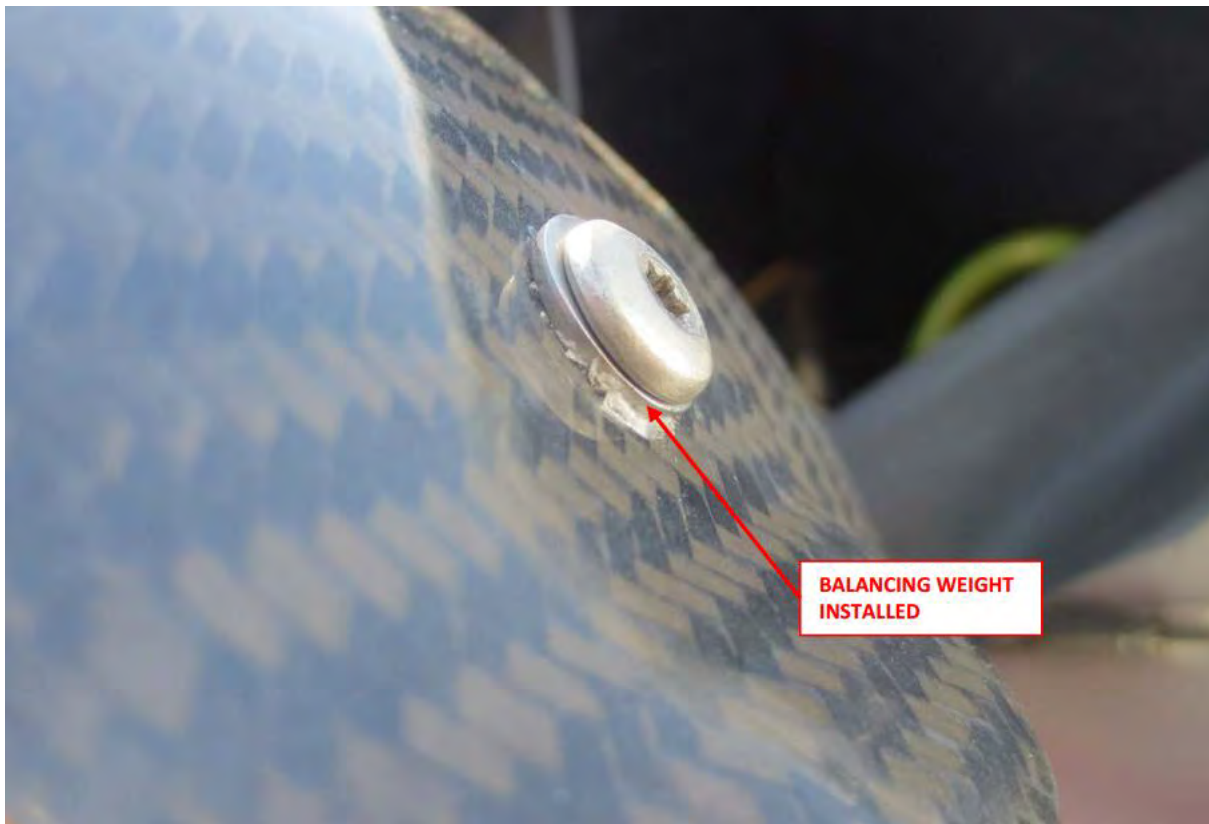

FIGURE 16-70
13. Install a combination of washers listed in this task to achieve the suggested weight calculated by the system. No more than three washers should be added to any one location. Apply LUBRICANT to spinner dome screws and torque to 26 in-lbs with a T20 Torx driver. (See Figure 16-70.)